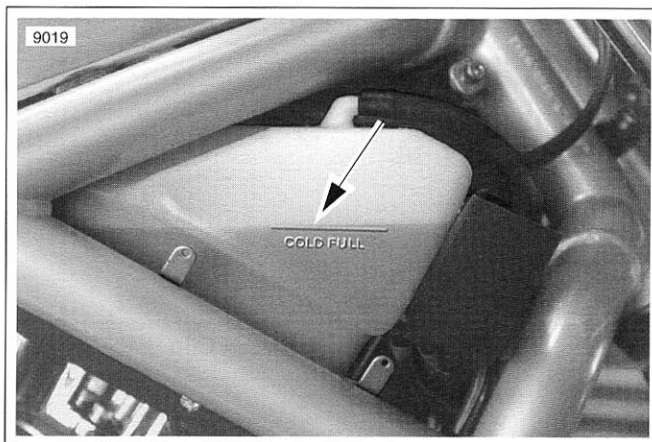

**Figure 1-10. Removing Fastener and Cover to Check Coolant Level**
1. See Figure 1-10. Remove fastener at upper corner of right side cover and remove cover.